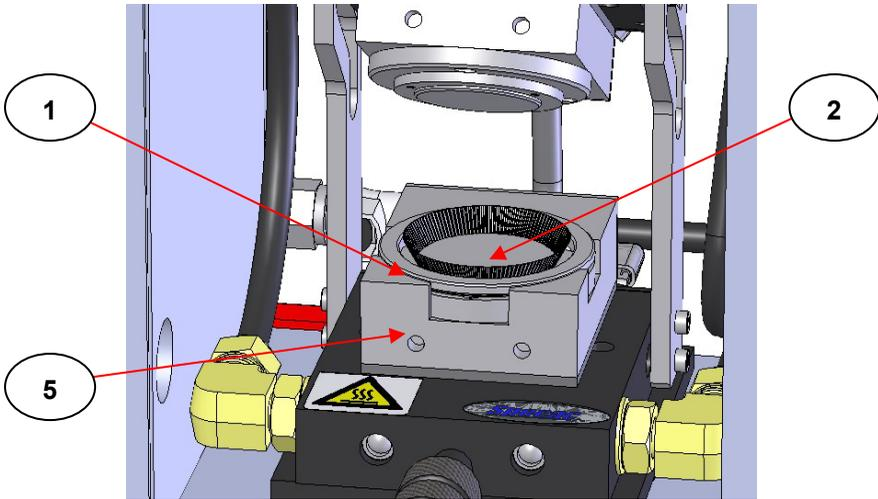

Fig 16. Lower Aluminium Sample Cup Positioned in Lower Heated Pressing Surface Assembly
With the Spacer ring (18) correctly positioned on the lower polished surface (14), using the forceps supplied place either a flat aluminium foil disc (21) or an already prepared aluminium foil sample cup (22) inside the spacer ring (18). When using a sample cup (22), make sure it is centred within the spacer ring (18). Where interference fringes are required the shiny surface of the aluminium foil should be in contact with the sample to be heated and pressed. (See Fig 16.)